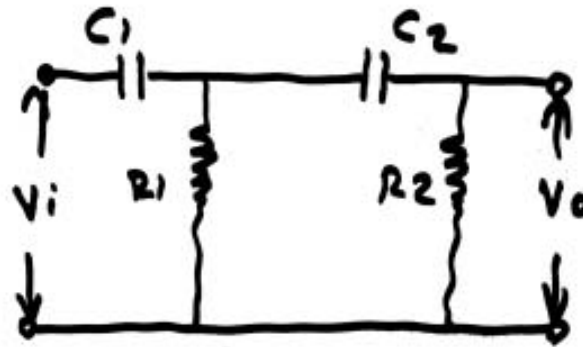

Fig. 2
b) For the network shown in Figure 2, obtain $\frac{V_o(s)}{V_i(s)}$ using Signal Flow Graph Technique.